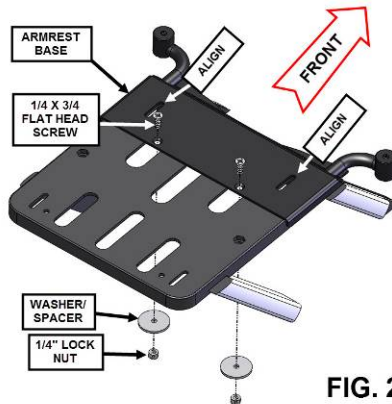

FIG. 2A
4. FIG. 2A SHOWS INSTALLING THE ARMRESTS ON A NON-REMOVABLE TRUNK MOUNT.
6. USING FIG. 2A OR 2B INSTALL TWO OF THE LARGE WASHER/SPACERS WITH THE FLAT HEAD SCREWS AND LOCK NUTS.